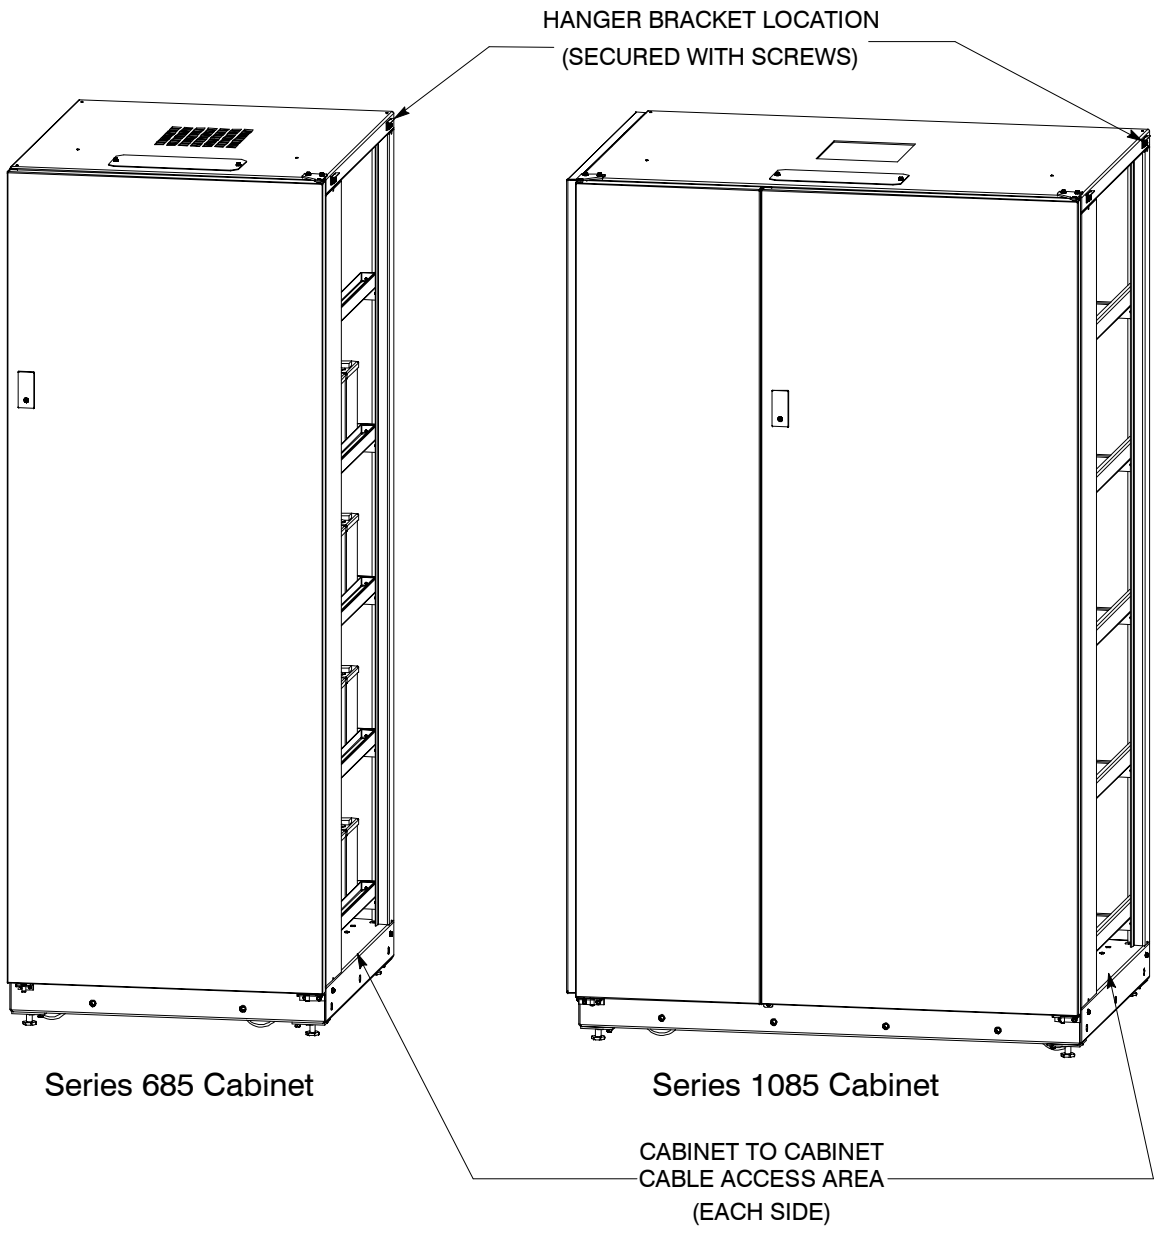
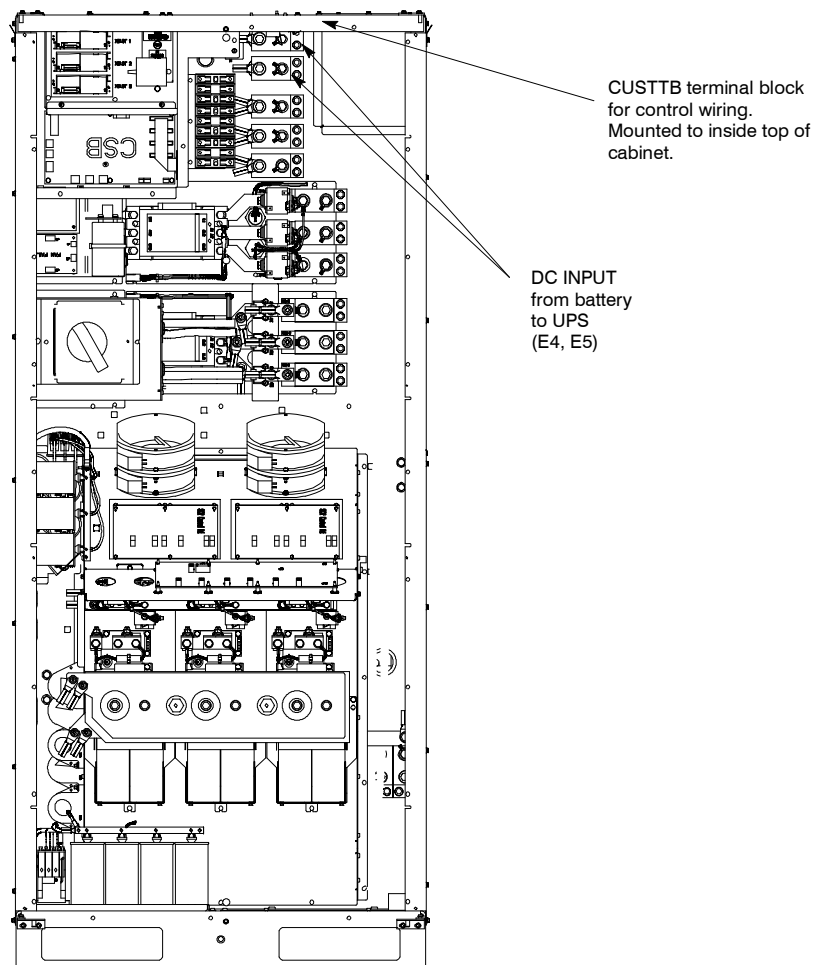
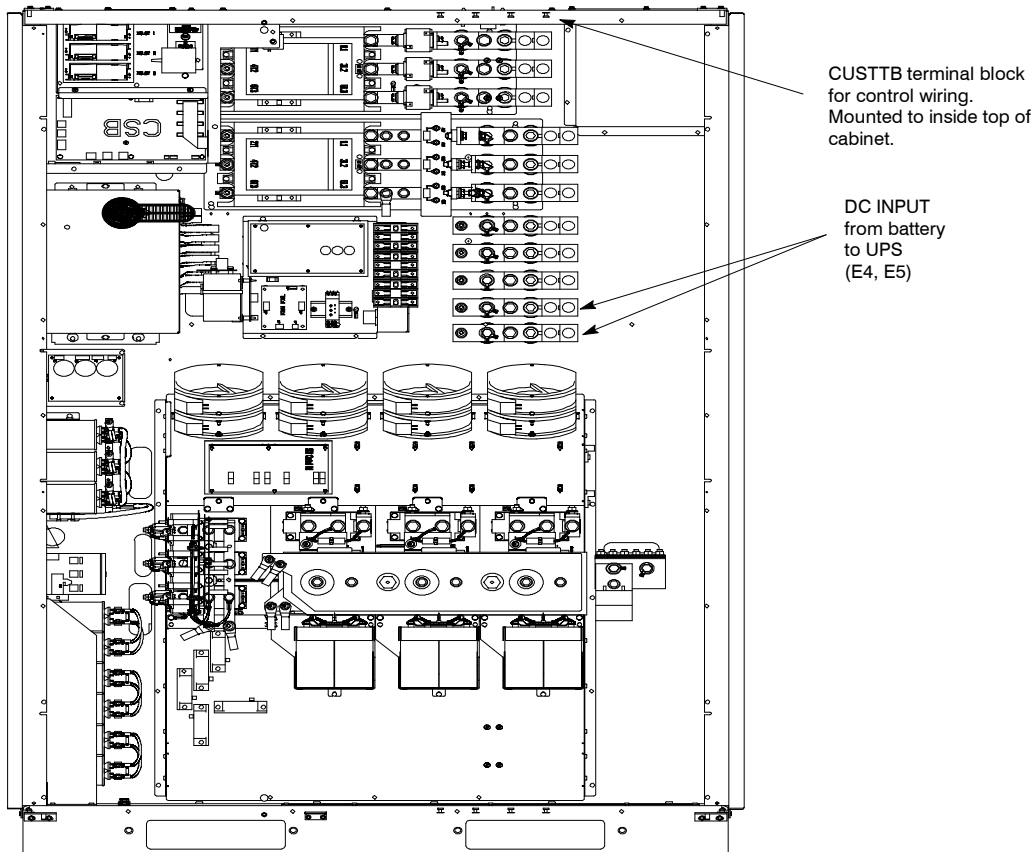

Figure 11. Series 685 and 1085 Battery Cabinet Hanger Brackets
Figure 18. Battery Connections for a Powerware 9350–80
Figure 19. Battery Connections for a Powerware 9350–160
- a. Mount the hanger brackets to the top side of the right-hand battery cabinet using M4 screws (see Figure 11).
- a.** Mount the hanger brackets to the top side of the battery cabinets using M4 screws (see Figure 11).
Figure 18 details the Battery cabinet DC connections and control wiring connection point in a Powerware 9350–80 UPS. Figure 19 details the same connections in a Powerware 9350–160 UPS.
6. Route cables from positive (+) and negative (–) terminals in the bottom of each battery cabinet through conduit (top or bottom entry) to terminals E4 and E5 of the UPS cabinet. See Figure 18 or 19 for location of terminals E4 and E5. Refer to Chapter 3, Figure 11 or Figure 13 for location of battery cabinet positive (+) and negative (–) terminals.
- a. Mount the hanger brackets to the top side of the battery cabinets using M4 screws (refer to Chapter 3, Figure 11 for location).